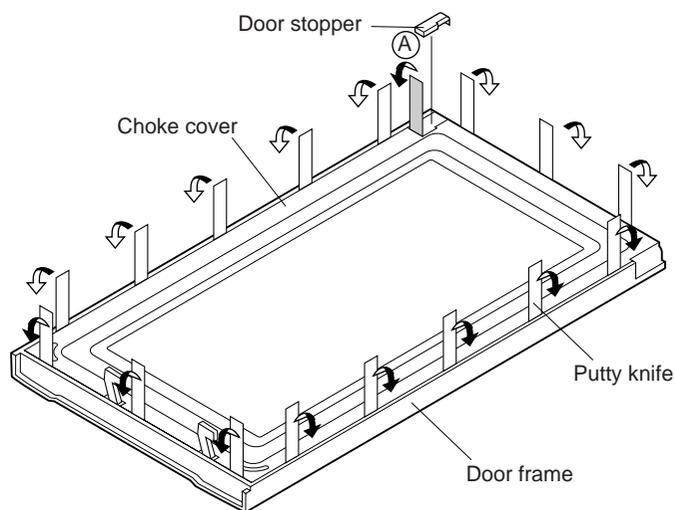

Figure C-3. Door Disassembly
4. Remove the three (3) screws holding the hood louver to the oven cavity front face plate.
6. Insert a putty knife (thickness of about 0.5mm) into the gap Δ between the door stopper and the choke cover as shown in Figure C-3 to free engaging parts.
8. Insert a putty knife (thickness of about 0.5mm) into the gap Δ between the choke cover and door stopper and between the choke cover and the door frame as shown Figure C-3 to free engaging parts.
9. Pry the choke cover by inserting a putty knife in order shown in Figure C-3.